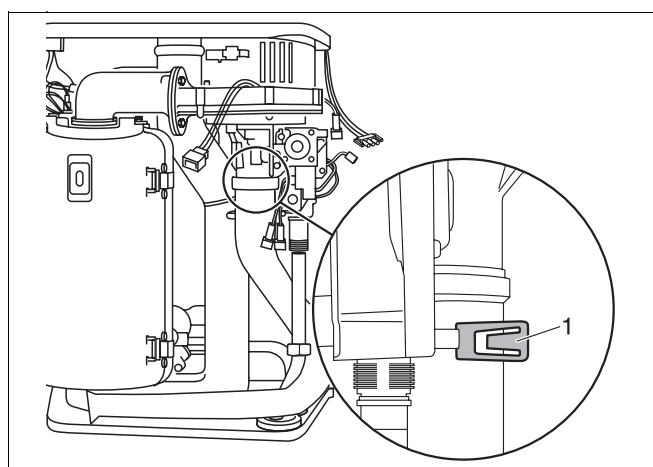

Fig. 71 Remove safety plate
- Push safety plate out of way (fig. 71, item 1).